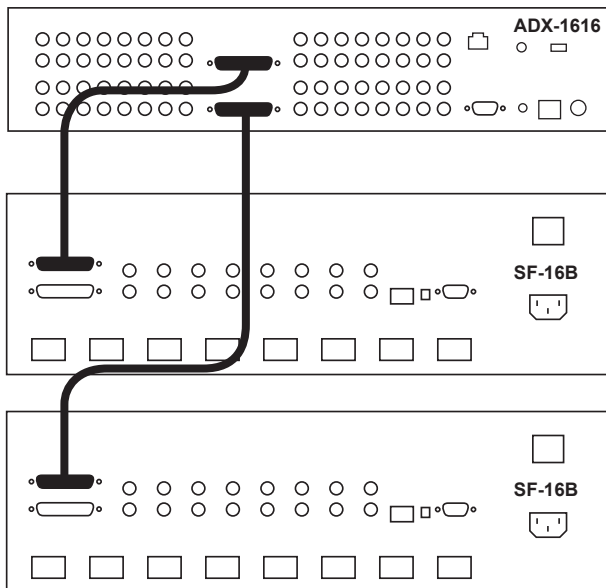
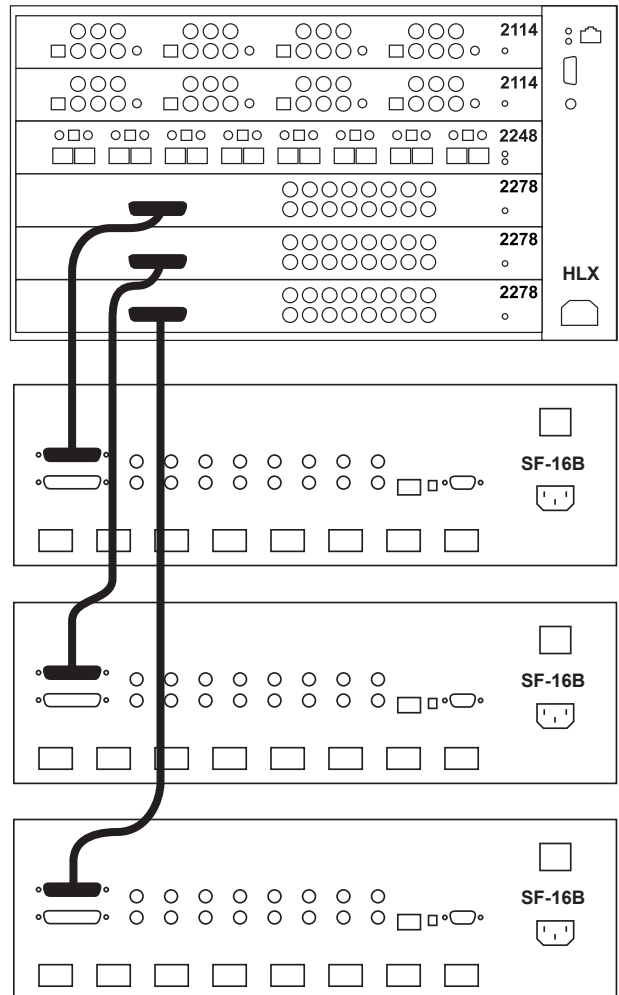

Figure 4
Figure 5
**2. Input from an Audio Authority audio matrix:** For installations where the SF-16B is serving as an amplifier for Audio Authority audio matrix preamplifiers such as the ADX-0808, ADX-1616 (Figure 4) or the HLX with 2278 audio output card (Figure 5).